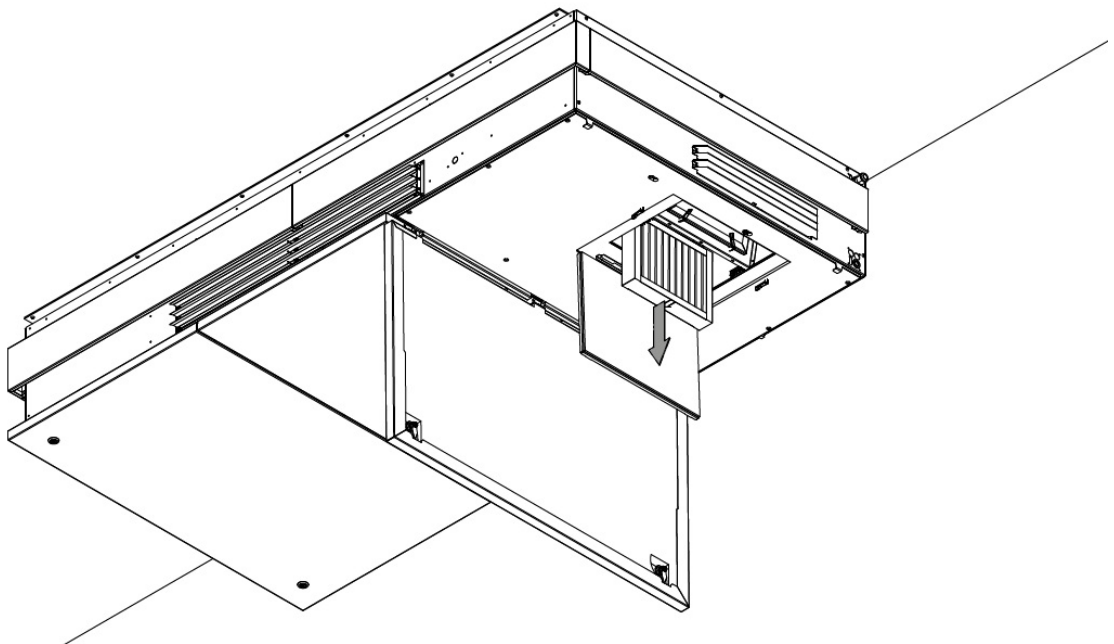
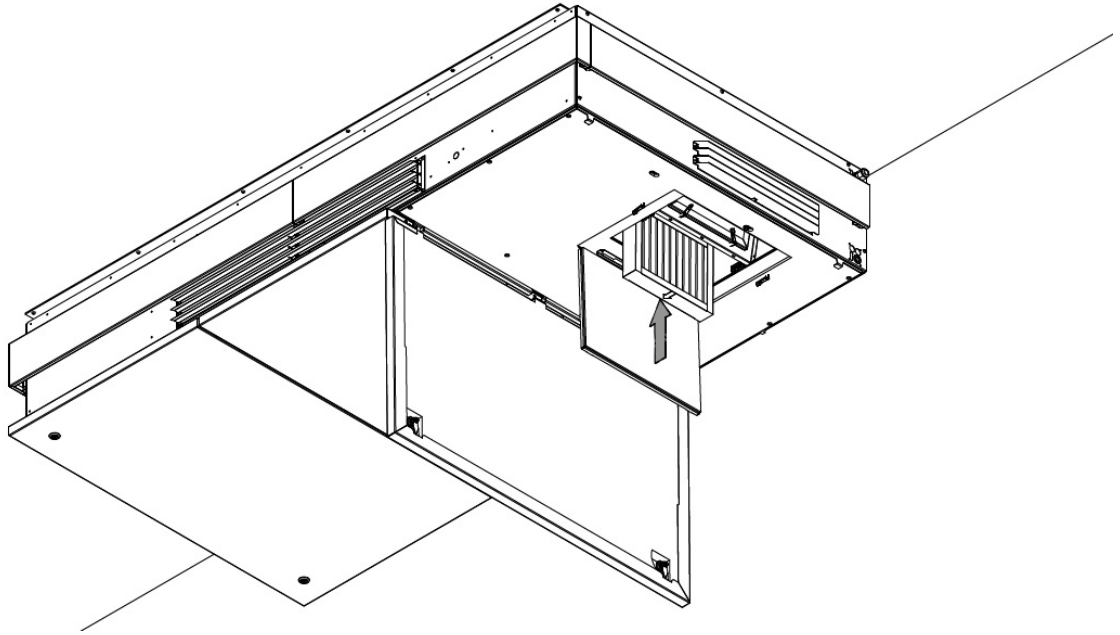

Figure 15: Take the fine filter out
Figure 16: Replace the fine filter with a new one
7. Take the filter out and replace it with a new one, see Figure 15 and Figure 16.